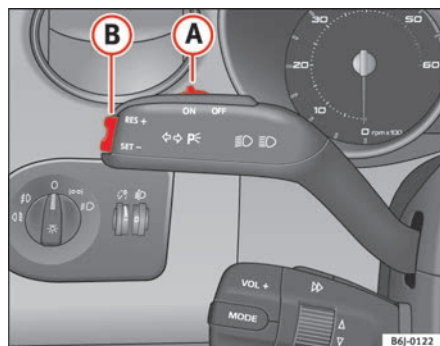

Fig. 105 Indicator and main beam headlight lever: switch and rocker switch for the cruise control
- Press the upper part **RES** of the rocker switch ⇒ fig. 105 (B) to increase the speed. The vehicle will continue to accelerate as long as you keep the rocker switch pressed. When you release the switch, the new speed is stored.
Control of the set speed is switched off if you reduce speed by depressing the brake pedal. Reactivate the control by pressing once on the upper part of the rocker switch **RES+** ⇒ fig. 105 (B).